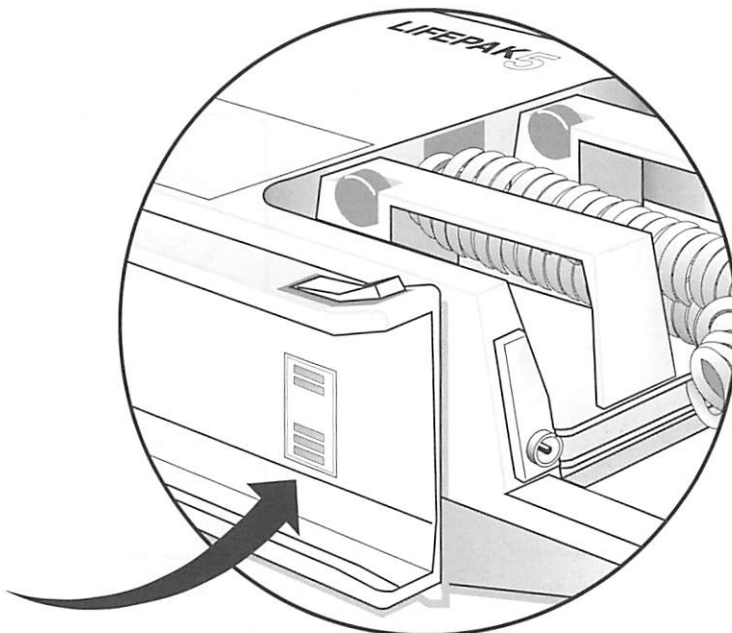

Figure 6-4. The LIFEPAK 5 contacts
- 1 Before installing the interface, check that the contacts on the left side of the LIFEPAK 5 (Figure 6-4) are clean in order to ensure signal transmission between the LIFEPAK 5 and the Propaq.